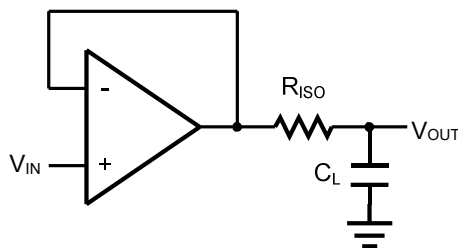
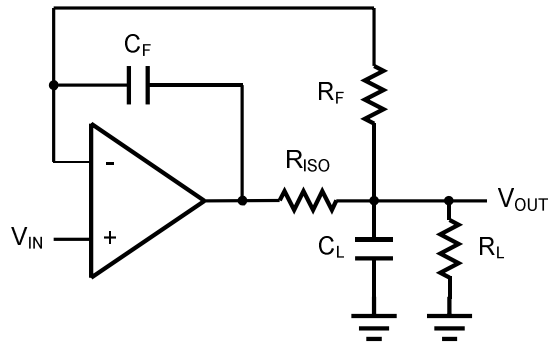

Figure 2. Indirectly Driving a Capacitive Load Using Isolation Resistor
Figure 3. Indirectly Driving a Capacitive Load with DC Accuracy
The HGAx376 family is optimized for bandwidth and speed, not for driving capacitive loads. Output capacitance will create a pole in the amplifier's feedback path, leading to excessive peaking and potential oscillation. If dealing with load capacitance is a requirement of the application, the two strategies to consider are (1) using a small resistor in series with the amplifier's output and the load capacitance and (2) reducing the bandwidth of the amplifier's feedback loop by increasing the overall noise gain. Figure 2. shows a unity gain follower using the series resistor strategy. The resistor isolates the output from the capacitance and, more importantly, creates a zero in the feedback path that compensates for the pole created by the output capacitance.
The circuit in Figure 3 is an improvement to the one in Figure 2. RF provides the DC accuracy by feed-forward the VIN to RL. CF and RISO serve to counteract the loss of phase margin by feeding the high frequency component of the output signal back to the amplifier's inverting input, thereby preserving the phase margin in the overall feedback loop. Capacitive drive can be increased by increasing the value of CF. This in turn will slow down the pulse response.